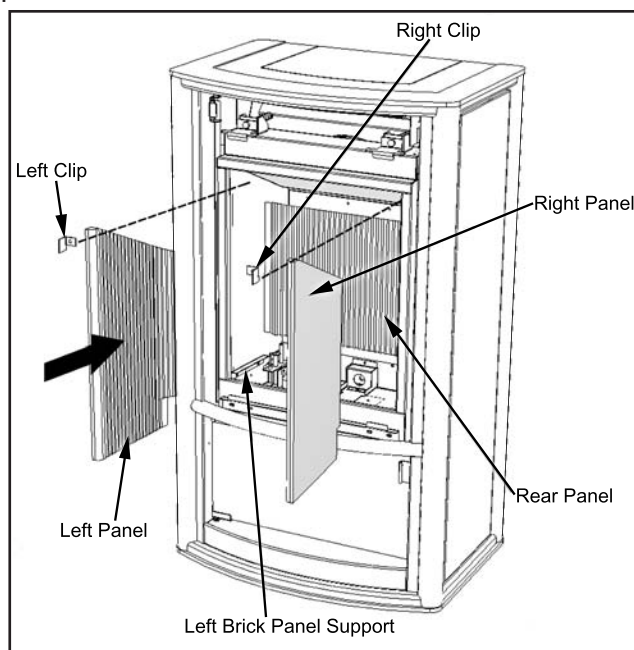

Figure 50: Firebox Liners Installation.
7. While holding the rear ceramic liner from falling forward, install the left and right liners by sliding them in against the sides of the firebox and up to the rear liner (refer to Figure 50).